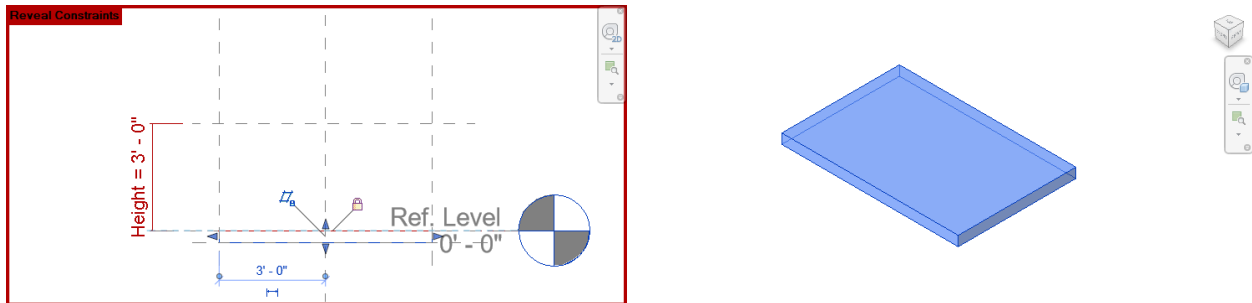

Figure 15
7. Lock the new position of the Extrusion shape handle. You should have a very short box completely below the Ref. Level (see Figure 15).